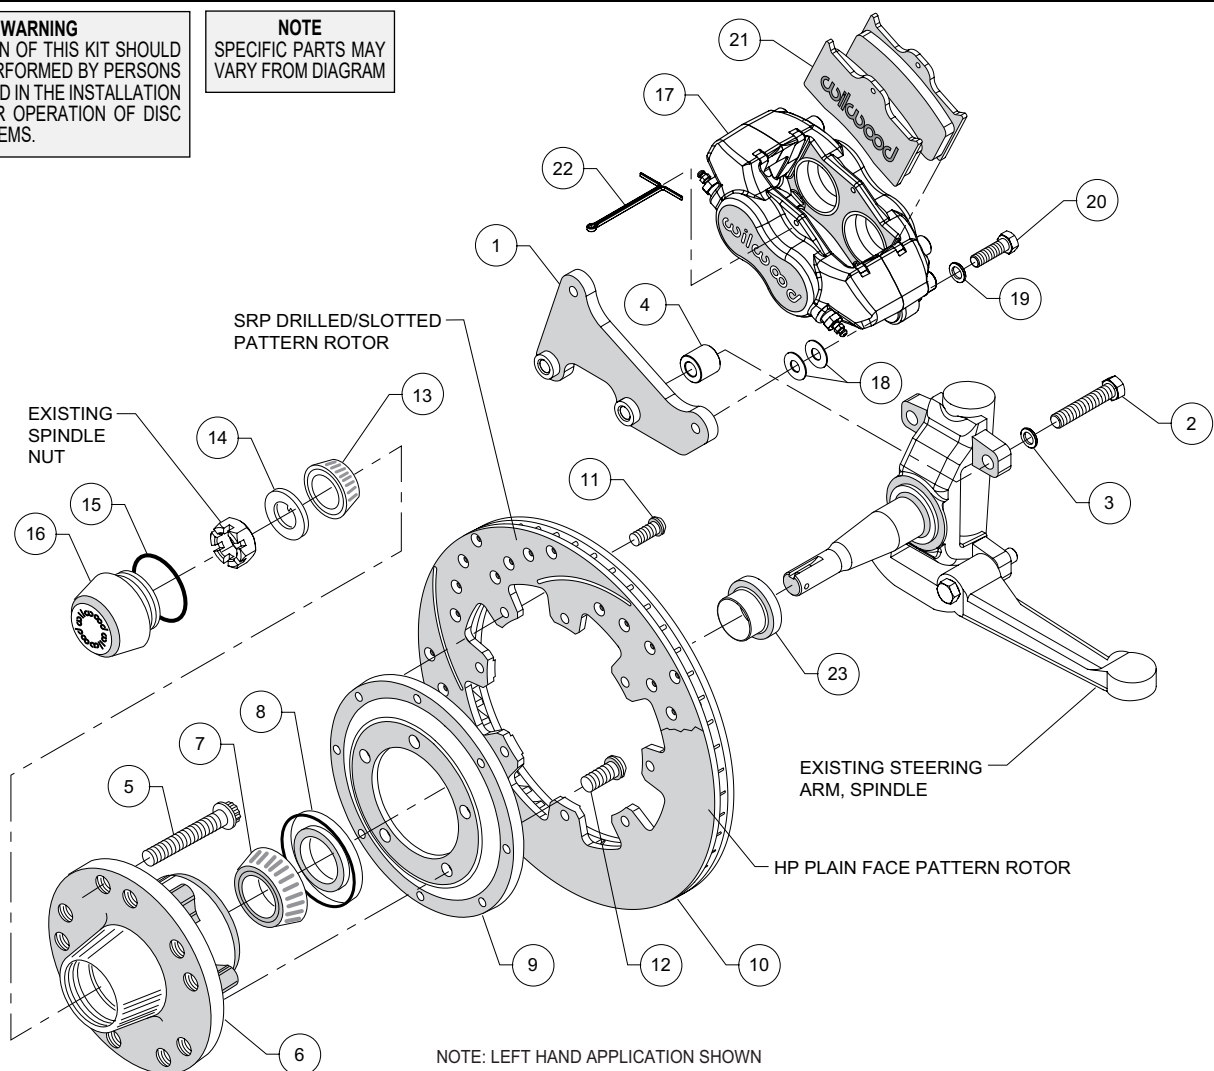
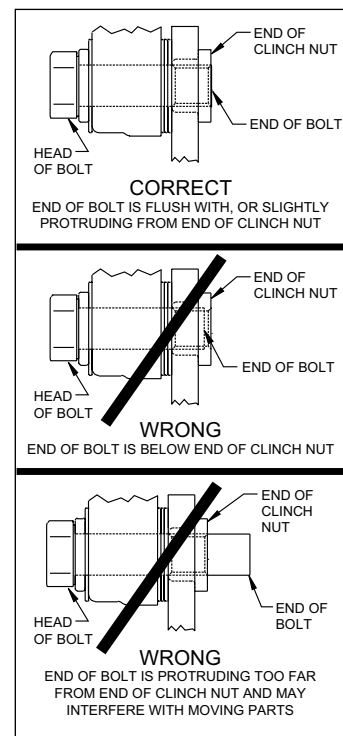

Figure 1. Typical Installation Configuration
Figure 3. Clinch Nut Engagement Diagram
•**NOTE:** Numbers in parenthesis refer to the parts list on the preceding page and Figure 1.
•**CAUTION:** All mounting bolts must fully engage clinch nuts. Be sure to check that all bolts are either flush or protruding through flanged side of clinch nut after shimming, Figure 3.
•Orient the caliper mount bracket (1) as shown in Figure 1, and install using bolts (2) and washers (3). Place a spacer (4) on each bolt between the bracket and caliper mounting bosses, Figure 1. Ensure that the flanged heads of the clinch nuts in the bracket are facing outboard. Temporarily tighten the mounting bolts. **NOTE:** The bracket must fit squarely against the mount bosses on the upright. Inspect for interference from casting irregularities, machining ridges, burrs, etc. Remove bolts one at a time, apply red *Loctite*® 271 to the threads and torque to 70 ft-lb.
•Slide the inner bearing spacer (23) onto the spindle with the larger O.D. facing inward, Figure 1 and Photo 1.
•Install wheel studs (5) into the hub (6), Photo 2. Torque to 77 ft-lb. **NOTE:** There are two five lug patterns in the hub (5 x 4.75 and 5 x 5.00). Ensure the correct hub stud pattern is being used to fit the wheel application.
•Pack the large inner bearing cone (7) with high temperature disc brake bearing grease (available from your local auto parts store) and install into the backside of the hub (6), Photo 3.
•Install the grease seal (8) by pressing into the backside of the hub (6), flush with the end of the hub, Photo 3.
- Orient the rotor (10) and the rotor adapter (9) as shown in Figure 1 and Photo 4. Attach the rotor to the adapter using bolts (11). Using an alternating sequence, apply red *Loctite*® 271 to the threads, and torque to 25 ft-lb.
- Mount the adapter/rotor assembly (9/10) to the hub (6) using bolts (12), as shown in Figure 1 and Photo 5. Using an alternating sequence, apply red *Loctite*® 271 to the threads, and torque to 45 ft-lb.
- Pack the small outer bearing cone (13) with high temperature disc brake bearing grease and install into hub (6). Slide the hub/rotor assembly onto the spindle. Secure using spindle washer (14) and OEM spindle nut, Photo 6. Bearing adjustment: Tighten the nut while turning the hub. When there is a slight bind on the bearings, they are seated correctly. Back the nut off about 1/6 to 1/4 of a turn, or sufficiently to allow .001" to .007" end play. **WARNING:** Failure to back off adjusting nut could cause bearing to run hot and be damaged, which could cause the wheel to lock or come off. Install OEM spindle nut retainer (if any) and new cotter pin (not supplied).
- Screw dust cap (16) into hub (6), Photo 7. Friction created by the o-ring (15) on the dust cap keeps it from unscrewing. **NOTE:** The O.D. of the existing OEM spindle washer may be larger than the I.D. of the dust cap not allowing it to seat against the hub face. Therefore, use the spindle washer (14) supplied with the kit instead of the OEM washer.
- NOTE:** Please reference the caution statement at the beginning of the assembly instructions. Mount the caliper (17) onto the caliper mounting bracket (1) using bolts (20) and washers (19), as shown in Figure 1. Initially place two .035" thick shims (18) on each bolt between the caliper and the bracket, Photo 8. Temporarily tighten the mounting bolts and view the rotor (10) through the top opening of the caliper. The rotor should be centered in the caliper, Photo 9. If not, adjust by adding or subtracting shims between the bracket and the caliper. Always use the same amount of shims on each of the two mounting bolts. **NOTE:** The end of each bolt must be flush with or slightly protruding from the head of the clinch nut, as shown in Figure 3. If necessary place spare shims between washer (18) and caliper mounting ear to achieve the proper clinch nut engagement. Later, after the calipers are bled, the caliper mounts bolts will be secured using red *Loctite*® 271.